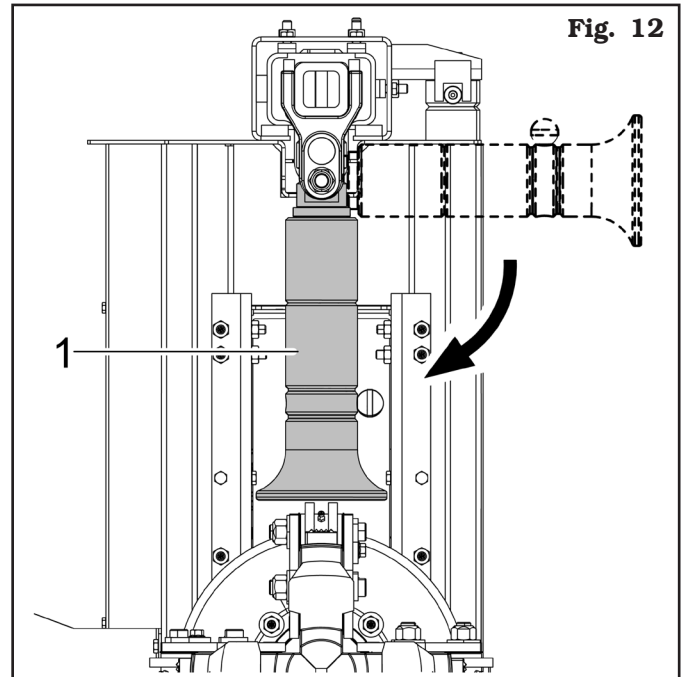
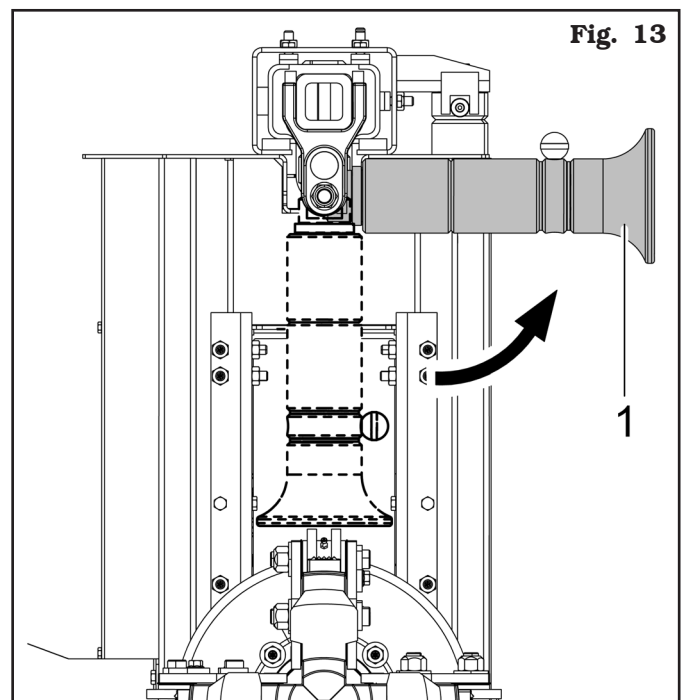

Fig. 12
Fig. 13
The control (**Fig. 12**) consists of:
In "working" position (**Fig. 12 ref. 1**) the roller holder arm is lowered towards the self-centring chuck and from this position it must carry out the various tyre bead breaking, demounting and mounting operations.
In "out of work" position (**Fig. 13 ref. 1**): the roller holder arm is in horizontal position and has to be brought in this position every time it is not in use and in order to be shifted from one tyre side to another, during the different working phases.
7. once external beading has been carried out, unhook and lift the roller holder arm setting it to “out of work” position (**Fig. 13 ref. 1**); use the handle control to position the roller holder arm on the inner side of the wheel, then set it to “work position” (**Fig. 12 ref. 1**) and secure it with the special safety pin;
- once the external bead has been removed, move roller holder arm away from the wheel, unhook it and lift it setting it to "out of work" position (**Fig. 13 ref. 1**); use the handle control to position the roller holder arm on the inner side of the wheel then set it to work position again (**Fig. 12 ref. 1**) and secure with the safety pin;
7. set the roller holder arm to "out of work" position (**Fig. 13 ref. 1**); translate it to the inner side of the tyre and set it to "work position" again (**Fig. 12 ref. 1**);